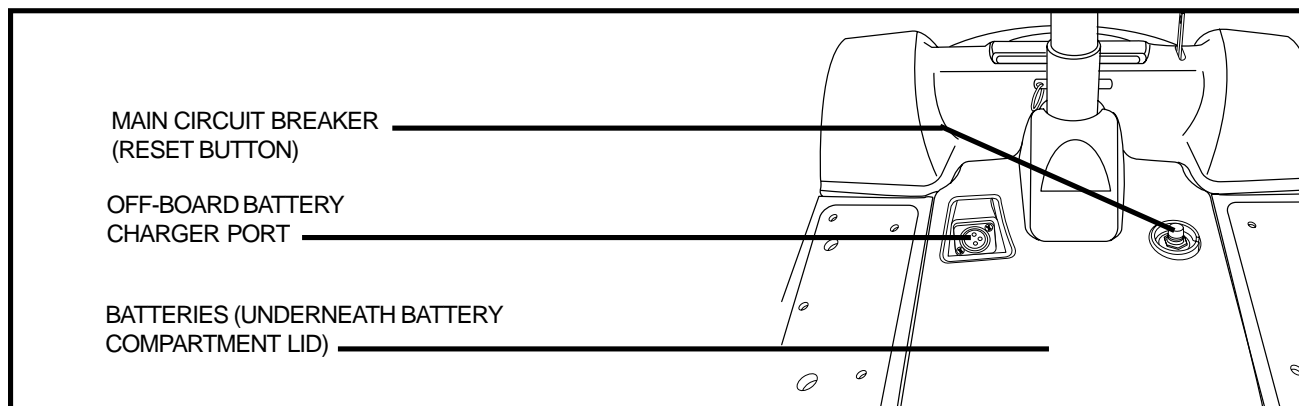
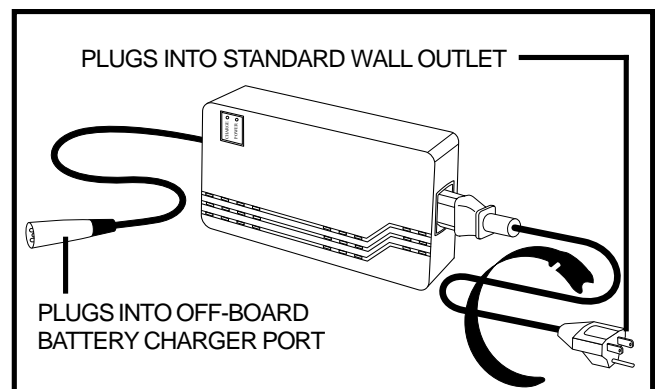

Figure 8. Battery Charging Components
Figure 10. Off-Board Battery Charger
The batteries, off-board battery charger port, and main circuit breaker (reset button) make up the battery charging components. See figure 8.
4. Plug the 3-pin charger power cord (see figure 10) into the battery charging port. See figure 8.